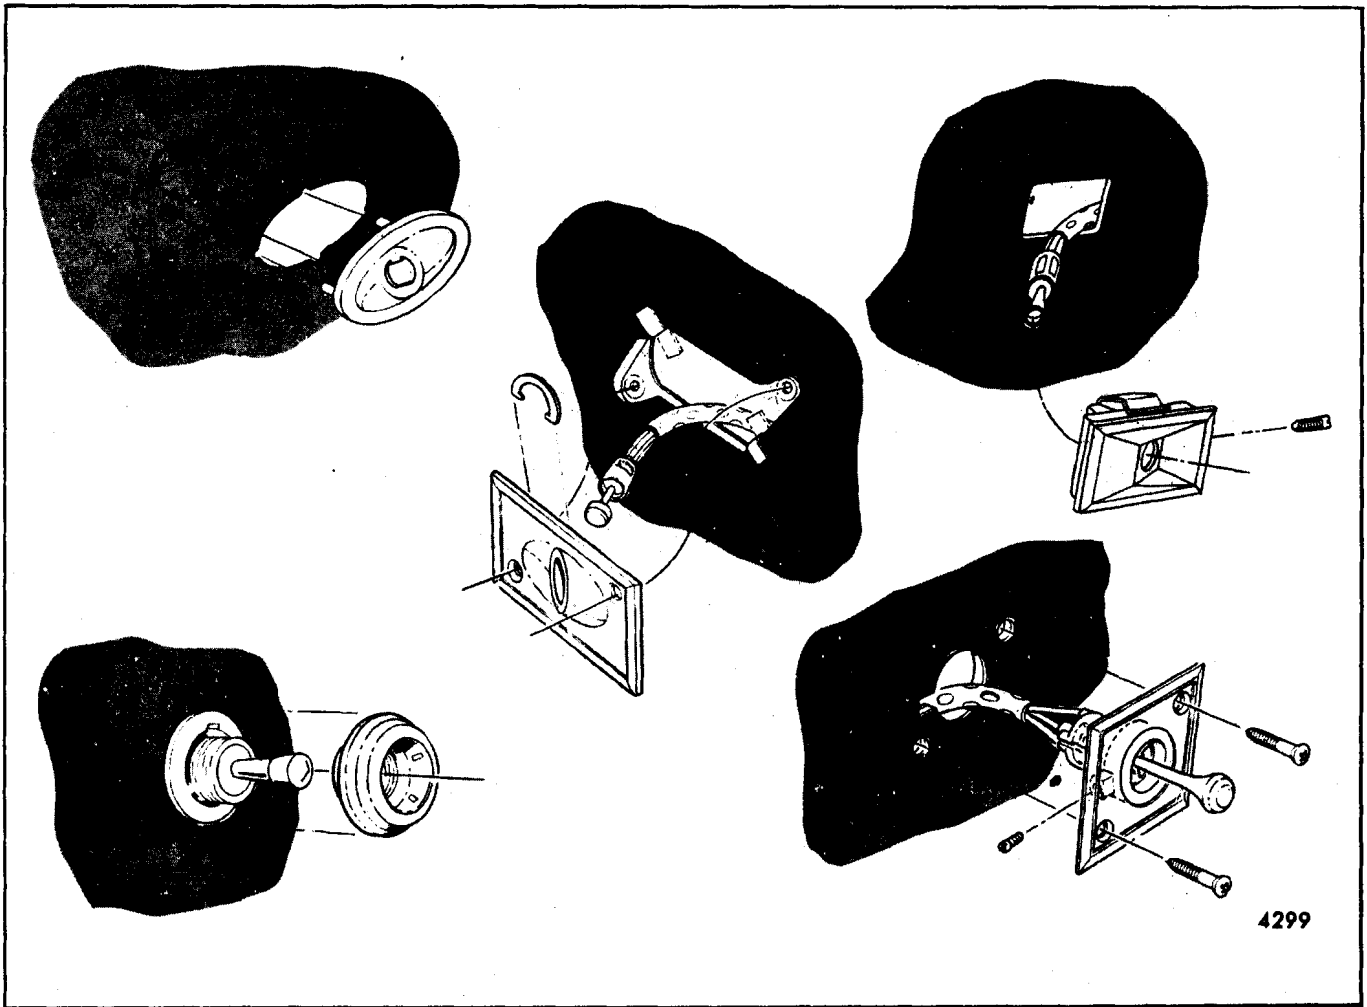

Fig. 13-5-Typical Remote Mirror Cable and Escutcheon Attachment, All Except Cadillac Styles
On styles with remote control door outside mirrors, the remote control mirror cable must be disengaged from the door trim assembly or arm rest (Cadillac styles only) to permit trim assembly removal. To disengage the remote cable from the door trim assembly, refer to Figures 13-5 and 13-6.
4. On styles with remote control mirror assemblies, remove remote mirror escutcheon and disengage end of mirror control cable from escutcheon as previously described (Figures 13-5 and 13-6).